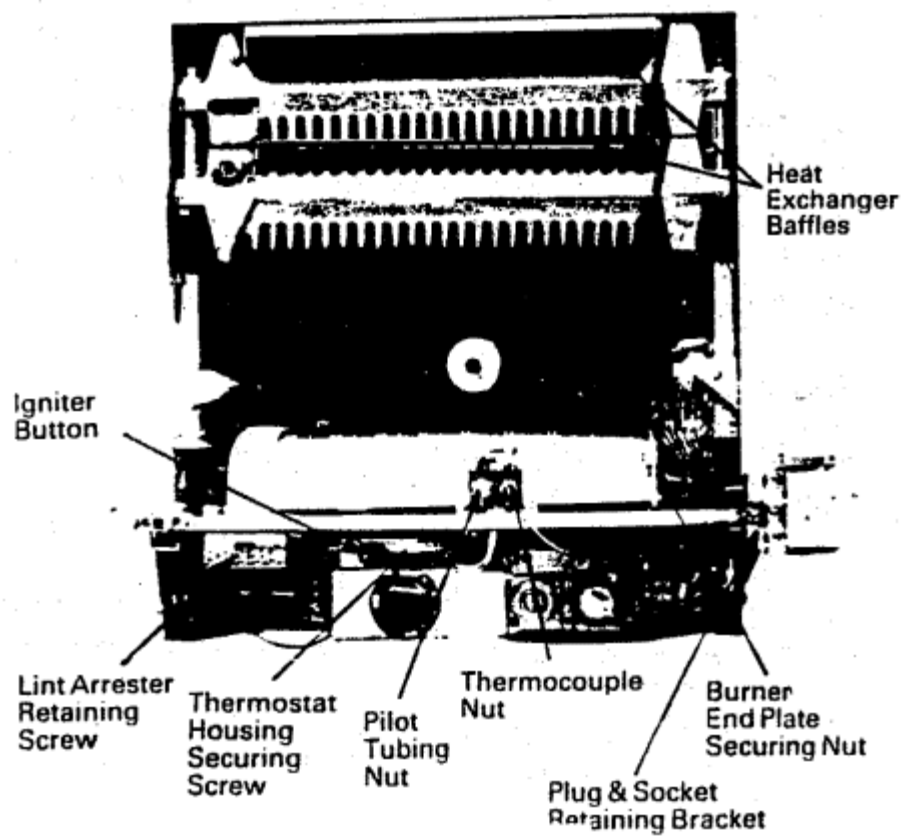

Fig. 22. Combustion Chamber and Controls
- (b) Release the thermocouple nut at the pilot bracket (Fig. 22).
(d) Remove the two air inlet retaining screws and remove the burner from the air inlet box (Fig. 22).
(c) Remove the screw securing the thermostat to its mounting bracket. Pull the complete assembly forwards until the three spade electrical connections can be disconnected. The thermostat housing can now be removed from the boiler (Fig. 22).